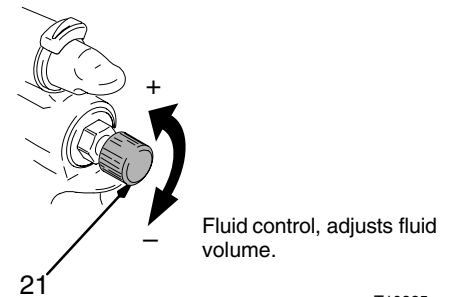

Fig. 4
3. If further gun fluid adjustment is needed, turn fluid adjustment knob (21) clockwise to reduce volume of fluid output. See Fig. 4.